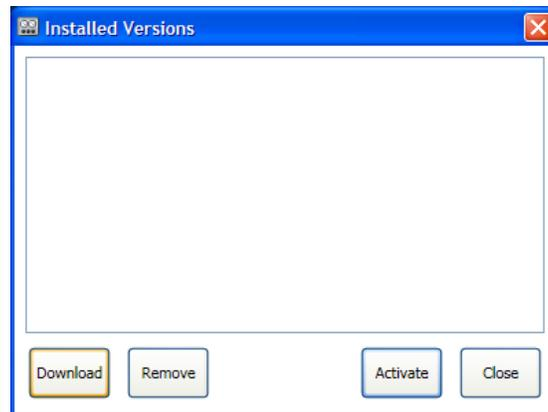

Figure 2-36: Installed Versions Window
- From the *E2010 Control Panel*, click the **Versions** button. The *Installed Versions* window displays, as shown in Figure 2-36.